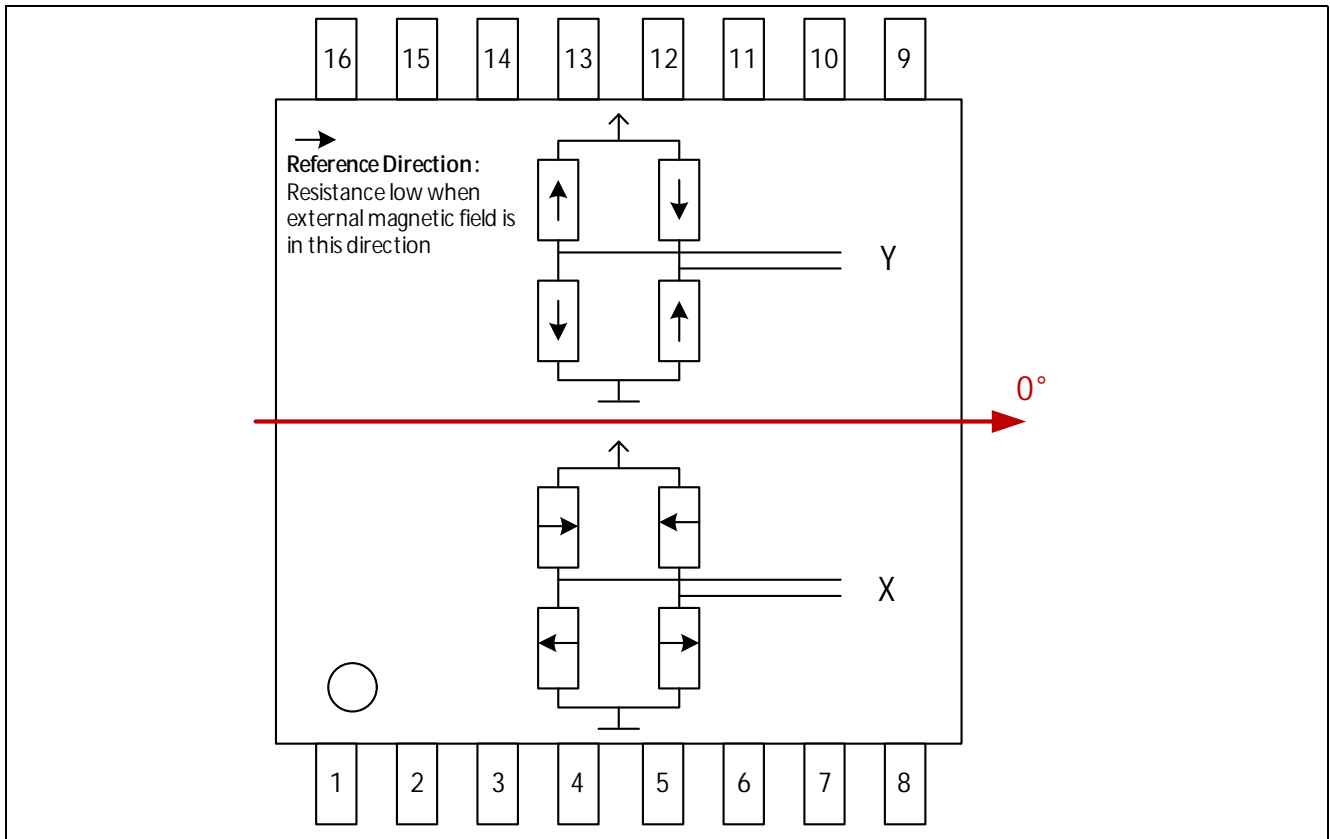

Figure 1-2 Sensitive bridges of the GMR sensor (not to scale)
**Attention:** Due to the rotational placement inaccuracy of the sensor IC in the package, the sensors 0° position may deviate by up to 3° from the package edge direction indicated in Figure 1-2.
In Figure 1-2 the arrows in the resistors represent the magnetic direction which is fixed in the reference layer. If the external magnetic field is parallel to the direction of the Reference Layer, the resistance is minimal. If they are anti-parallel, resistance is maximal.